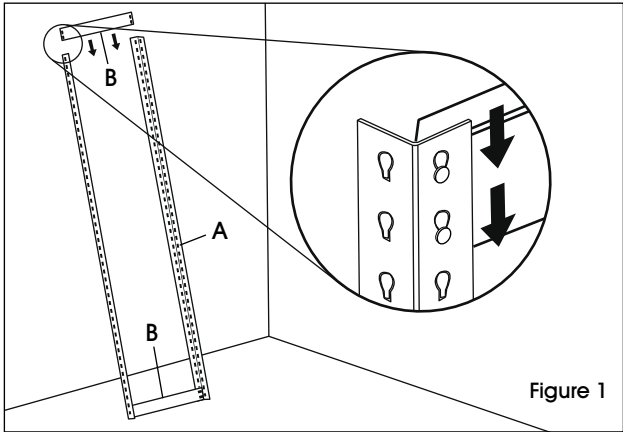

Figure 1
1. Connect two upright posts (A) by inserting a side support piece (B) at the bottom and top of the posts. (See Figure 1)